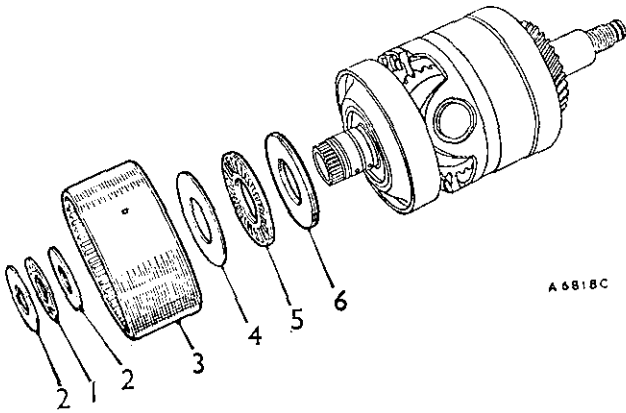

Fig. Fa.48
(31) Refit the top and reverse clutch with its selective steel washer and Torrington needle thrust bearing onto the reverse output shaft (see Fig. Fa.48).